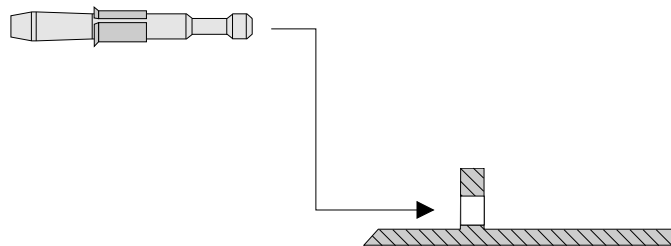

Figure 6-2
2. Select and install sleeve on mandrel with flare away from noscap. Insert mandrel and sleeve into hole as shown in Figure 6-2.